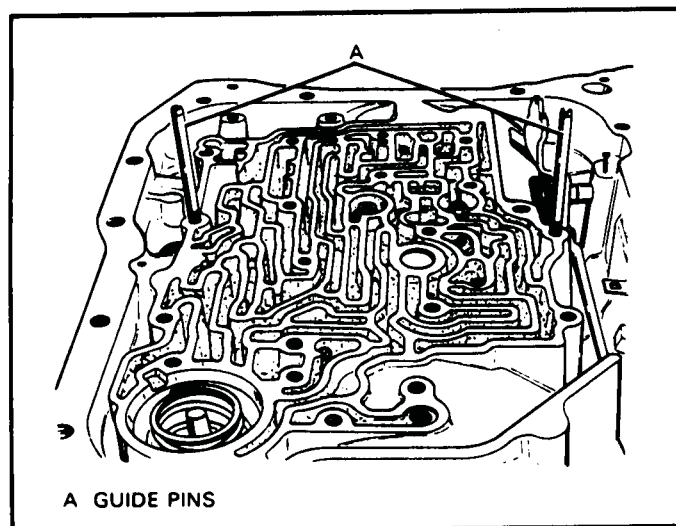

Figure 147
5. Install two guide pins into transmission case in the locations shown in Figure 147.